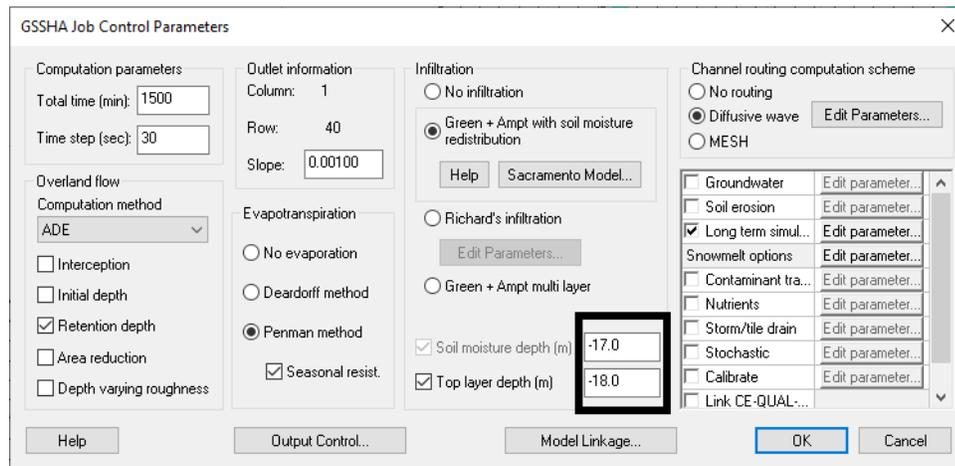

Figure 4 GSSHA Job Control Parameters dialog showing negative values entered under Infiltration section.
12. Under *Infiltration*, enter “-17” for *Soil moisture depth (m)* (See Figure 4)